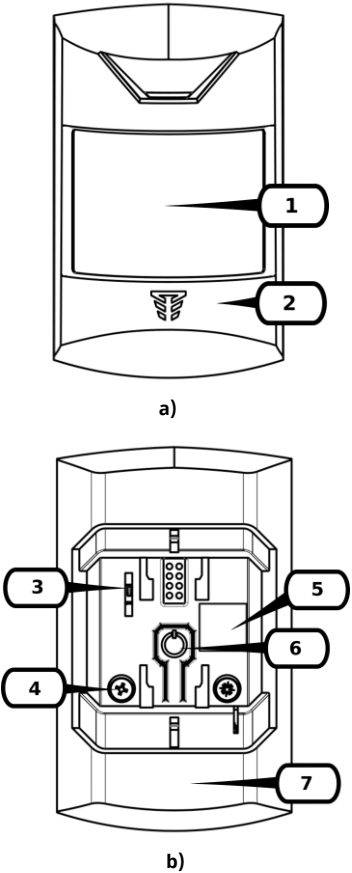

Figure 3.3 (a, b, c) - Appearance of the detector elements
The detachable element (10) in Fig.3.3, c) on the bracket detects interference in the case and separation from the surface to which the detector is attached. The detachable element should be fixed with a screw. If the